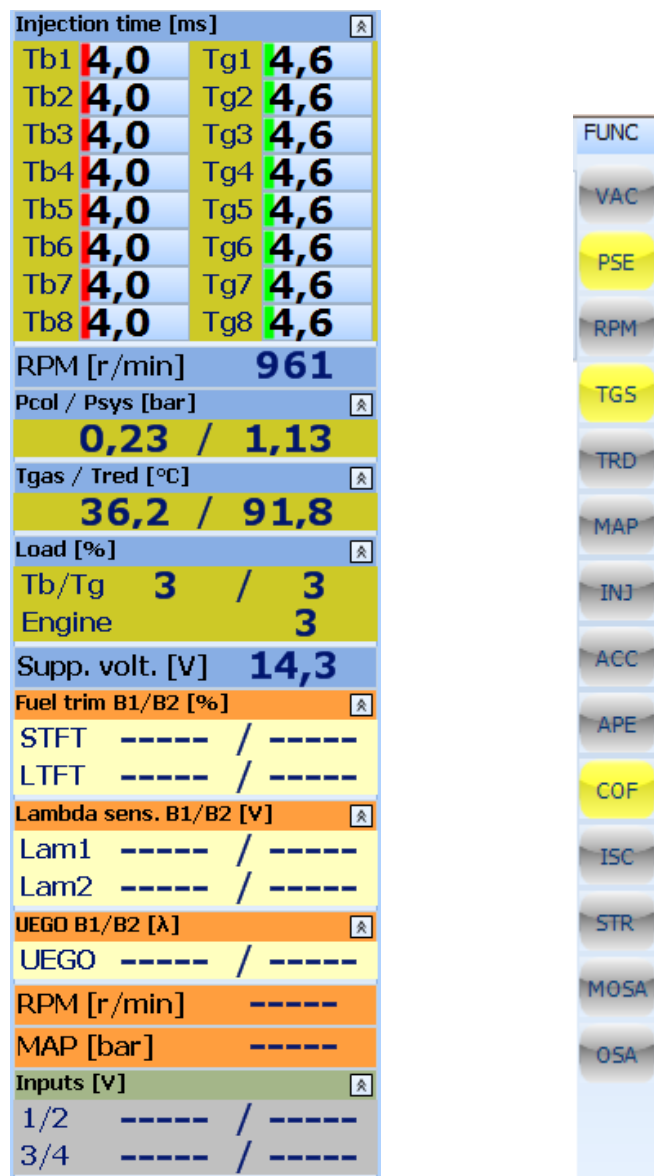

Fig. 3.2 Readings stripe and stripe indicating activity of chosen functions.
- Readings stripe – located in the right side of main window. It contains current reading of the main parameters (**Fig. 3.2**). Values coloured in red are inappropriate for proper work of gas injection system. Vaporizer temp. is olive between the temperature of switch-over to gas and 50°C. It is blue when over 50°C, because then all of the functions and procedures work properly. Pressure is always red when running on petrol. Yellow highlighting of the Gas injection time indicates active injector correction for specific injector. Readings bar is divided into parts. Part of an OBD can